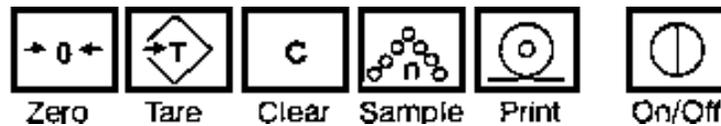

Figure 2
The keyboard used on the Model 1938 is a six position membrane keyboard utilizing graphic symbols. An illustration of the keyboard is shown in Figure 2. Refer to Section IV-B.4 for descriptions of keys.
- 2). Press the white "ON/OFF" key (located on the lower right side of the display assembly) to turn the scale power ON. (Refer to Figure 2).